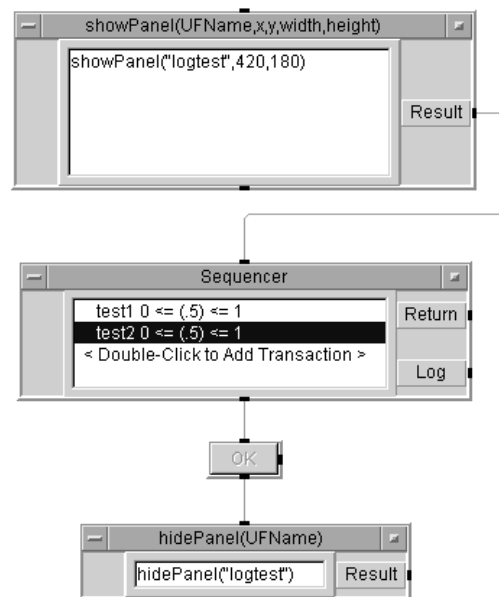

Figure 250 Status Panel Program (before running)
- 6 Select **hidePanel** from the Function & Object Browser box and **Flow** ⇒ **Confirm(OK)**. Change the **hidePanel()** parameter to **logTest**. Delete the input pin. Connect the objects as shown in Figure 250.